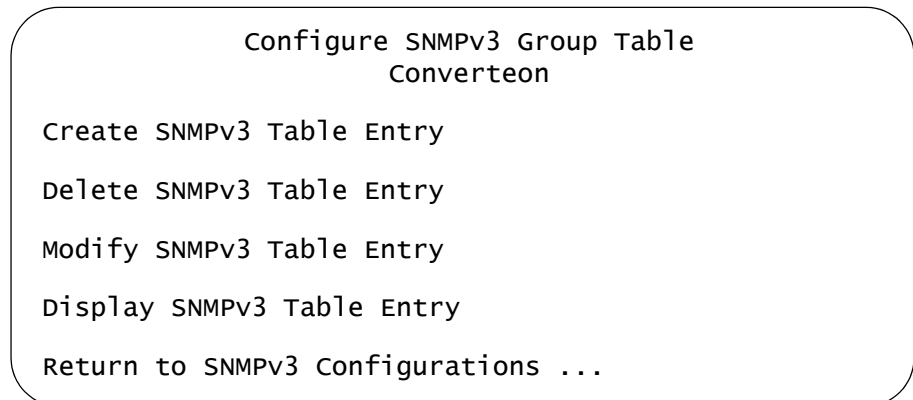

Figure 117. Configure SNMPv3 Group Table Menu
- ❑ From the Main Menu, select **Configuration -> System Configuration -> SNMPv3 Configurations -> Configure SNMPv3 Group Table**. The Configure SNMPv3 Group Table menu is shown in Figure 117.